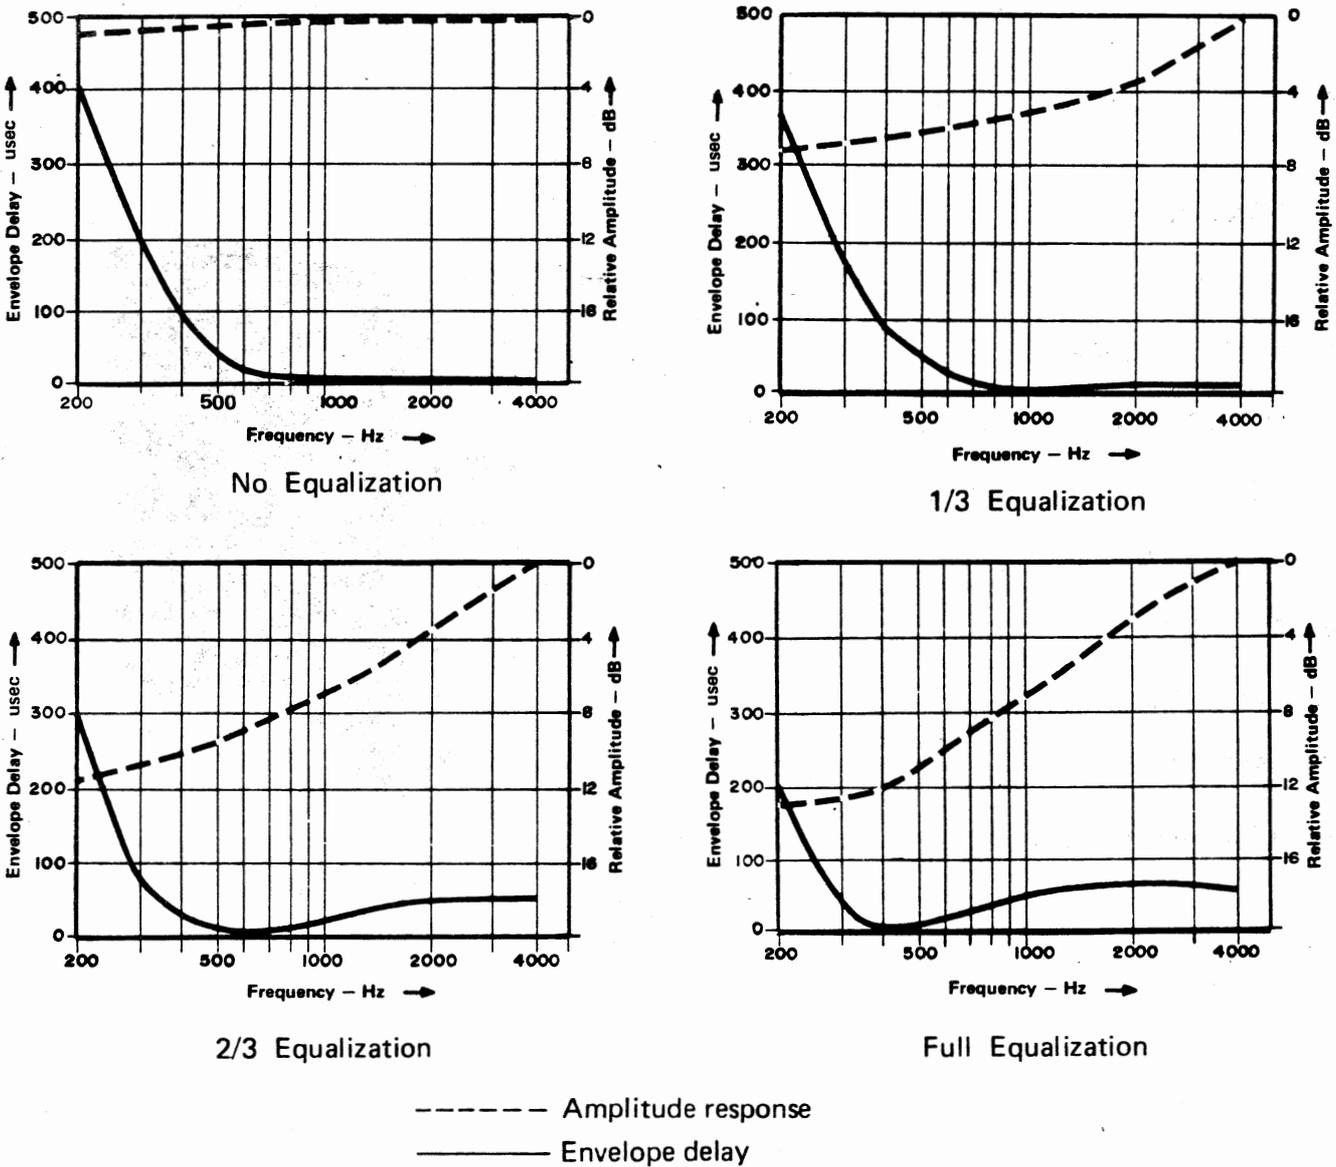

Figure 2. Typical Gain And Delay Characteristics Of The 401 Dual Line Amplifier
1.06 Variable equalizers are provided on the input of both the transmit and receive amplifiers to compensate for the amplitude slope characteristic of a facility (characteristic curves are shown in Figure 2). The 401, equipped with a 4031 optional subassembly can provide additional amplitude equalization on the receive side.